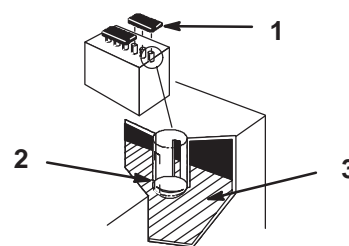

Figure 28
2. Open covers to see into the cells. The electrolyte must be up to the lower part of the tube (Fig. 28).
Important Do not allow the electrolyte to get below the plates. (Fig. 28).
2. Lift off the filler caps (Fig. 28).
3. Slowly pour distilled water into each battery cell until the level is up to the lower part of the tube (Fig. 28).